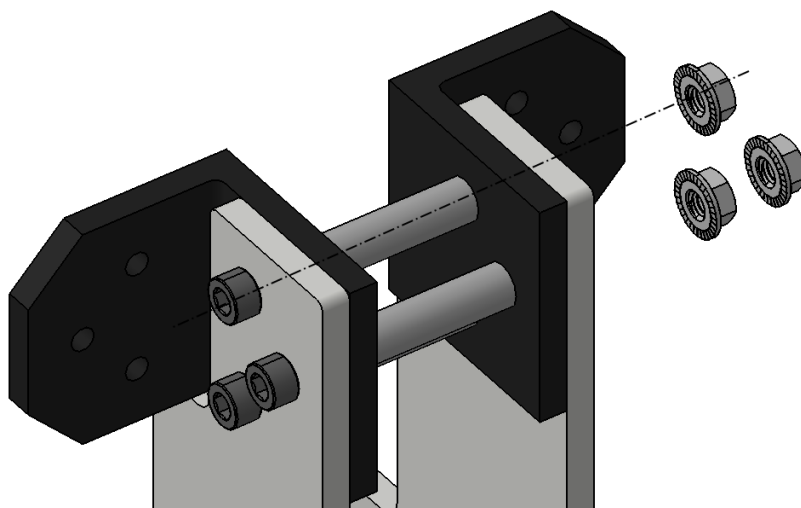

Fig. 4.11: Connect the upper mount
- ❑ Insert the M6 x 70 mm socket head screws (#BPRA) through the support plate (#PJBC), then the L bracket (#EPJT), then the spacer (#HYAR), again L bracket and come out on the other plate, shown as Fig 4.11.
- ❑ Rotate the M6 serrated lock nut (#PKQD) into the M6 x 70 mm screw as shown in Fig. 4.11.